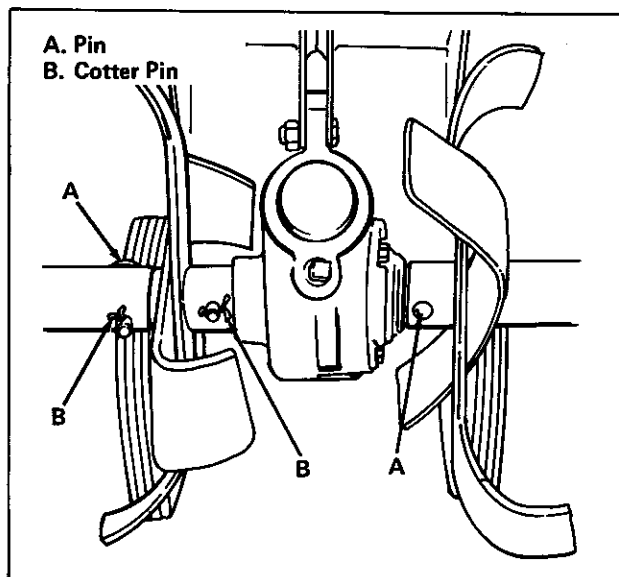

Figure 26. Tine Assembly
1. Tip the tiller backward so it rests on handle bars. Slide tines on rotor shaft. Secure with pin (item A, figure 26) and cotter pin (item B). Be sure that cutting edges of the tines are on the forward leading edge as rotor turns.